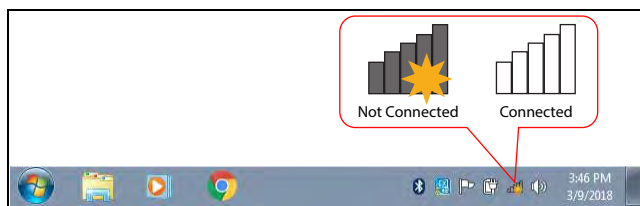

Figure 3-12
2. From the diagnostic tool, click the Wi-Fi icon in the System Tray (Figure 3-12).